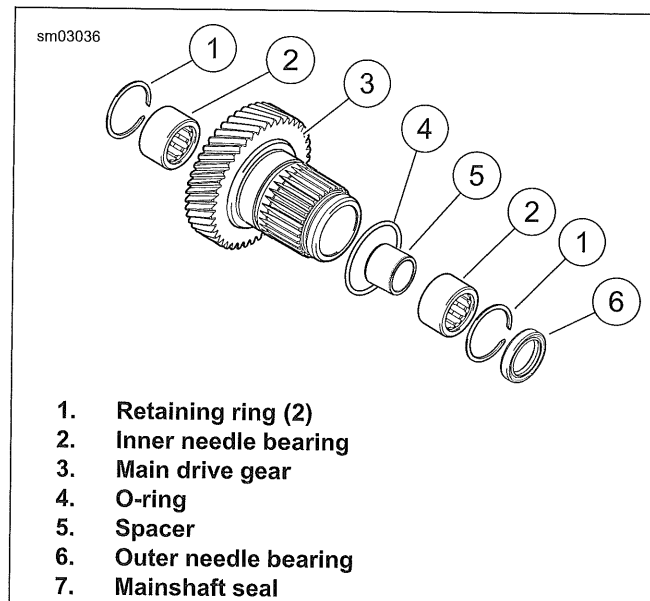

Figure 5-68. Main Drive Gear Assembly
1. See Figure 5-68. Remove mainshaft seal (7).
2. Remove retaining rings (1), needle bearings (2, 6) and spacer (5) from main drive gear (3). Discard retaining rings.
3. Discard O-ring (4).
6. See Figure 5-68. Turn over the main drive gear. Install spacer (5).
8. See Figure 5-68. Install **new** retaining rings (1).
9. Install **new** O-ring (4).